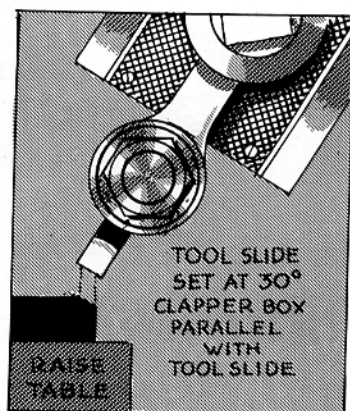

FIG. 388
13. Move the table until the work is under the tool (Fig. 388).
14. Loosen the cross-rail and raise the table (Fig. 388) if there is too much space between the bottom of the tool and the top of the work. Be sure that the cross rail is clamped and the table is properly supported after the height of the table has been adjusted.